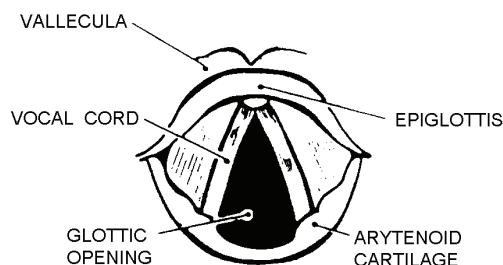

Figure 3-70. Vocal cords level
- a. Carefully guide the tip of the tube between the Insert the ET tube until the cuff is just below the level of the vocal cords. Refer to Figure 3-70.